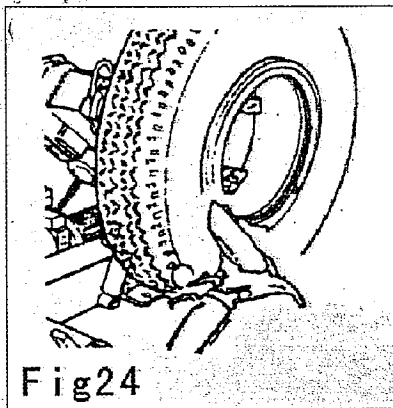

Fig 24
(3) Move the platform until the bead insert into the tyre completely.
(4) Move the tool holder outside plane and lower it to its working position with the disk towards the wheel. Move the spindle and bring the disk forward (with the spindle turning) until it is completely inserted.
(5) Put the split-ring on the rim and then install the locking ring with the help of the disk as shown in (fig. 24).
(6) Move the tool holder to its non-working position, and release the gripping device, move the platform to free the wheel from the spindle.